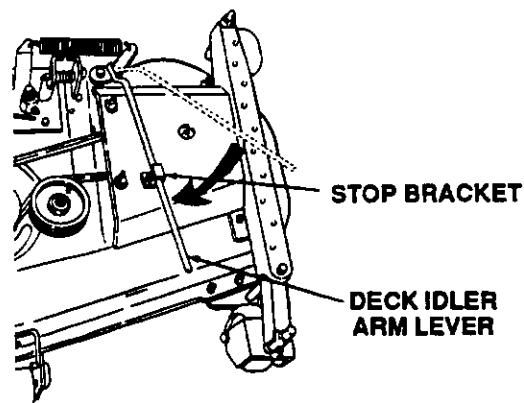

Figure 34
11. Engage deck idler arm lever into its stop bracket. (Refer to Figure 34.)